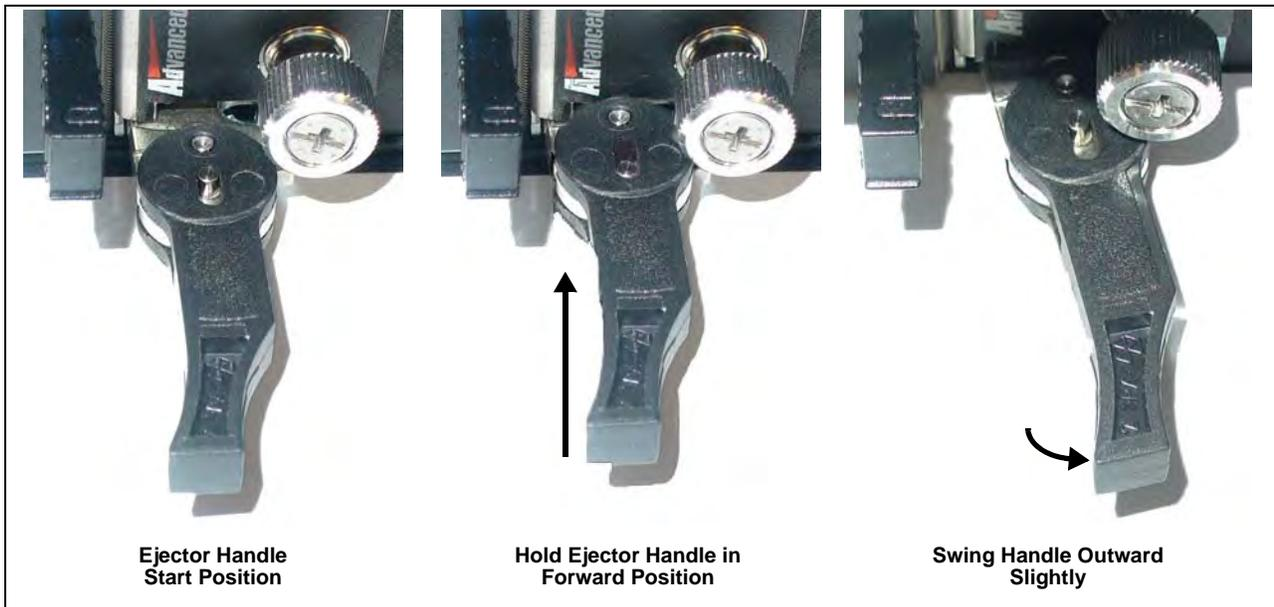

Figure 5.23 - IIC Right Ejector Handle Hot Swap Positioning
2. Push and **hold** the ejector handle in the forward position and then rotate it outward slightly until it cannot rotate any farther (Figure 5.23). The blue Hot Swap LED starts to blink, indicating that the blade is shutting down the OS.